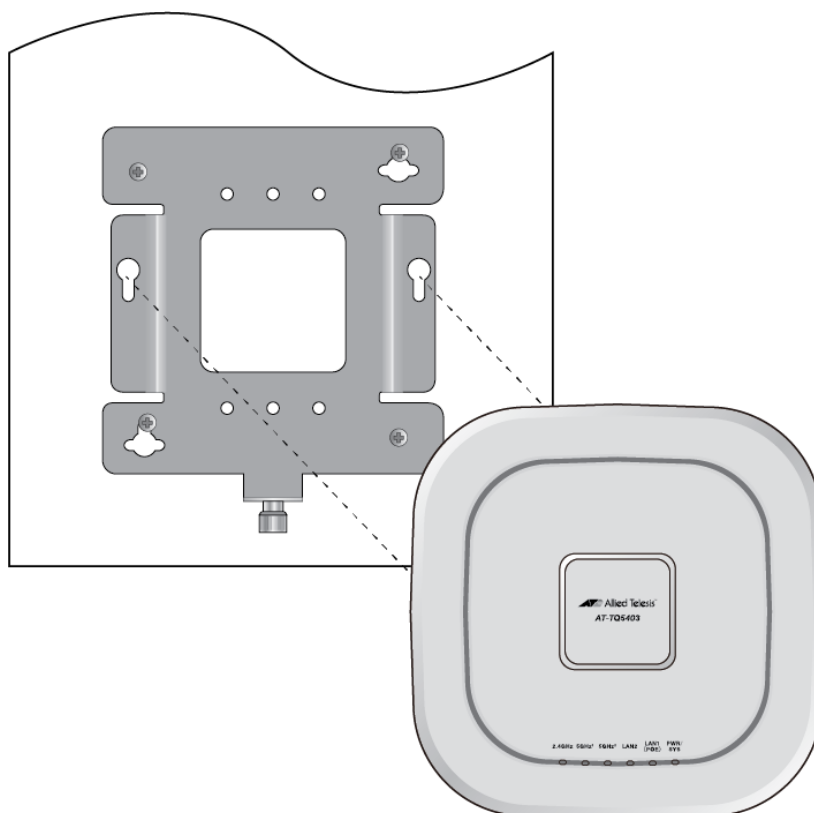

Figure 24. Installing the Access Point on the Mounting Bracket
1. Align the bottom of the access point over the bracket so that the two screws on the bottom of the device fit into the bracket keyholes. Refer to Figure 24. (These are the two access point chassis screws installed in “Pre-fitting the Mounting Bracket on the Access Point” on page 45.)